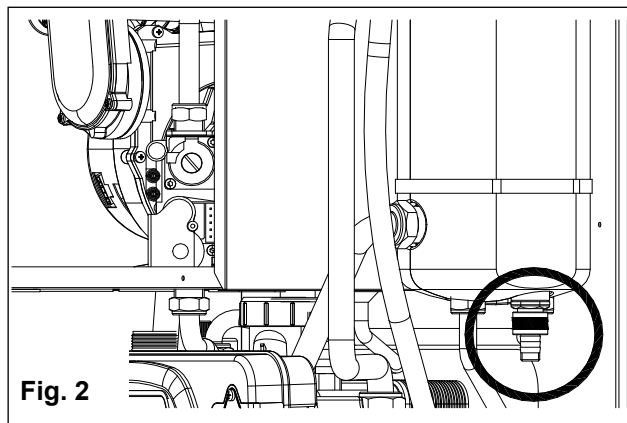

Fig. 2
- Joint the water draining pipe and open the cylinder draining tap (see fig. 2)